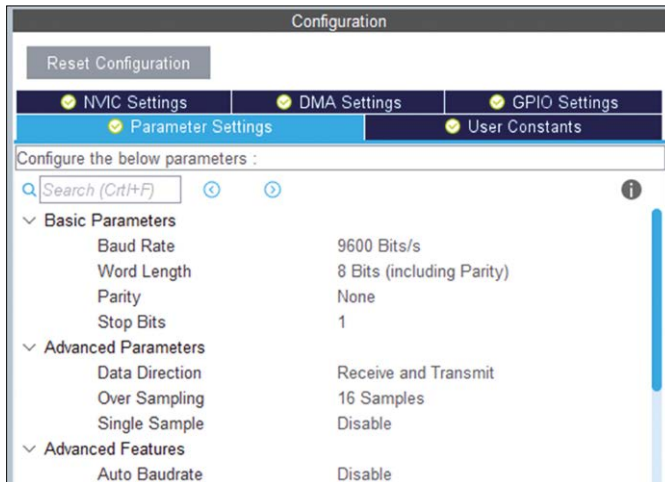

Figure 16.14: Configuring USART2.
- In **Parameter Settings**, set the **Baud Rate** to 9600, **Word Length** to 8, **Parity** to None, and **Stop Bits** to 1 (Figure 16.14).